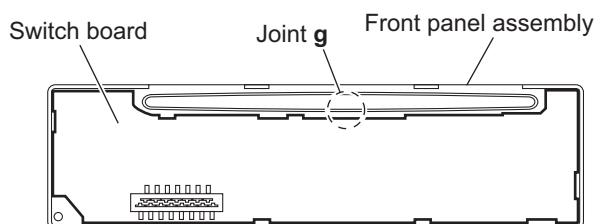

Fig.10
- (3) Release the joint **g** and take out the switch board from the front panel assembly. (See Fig.10.)